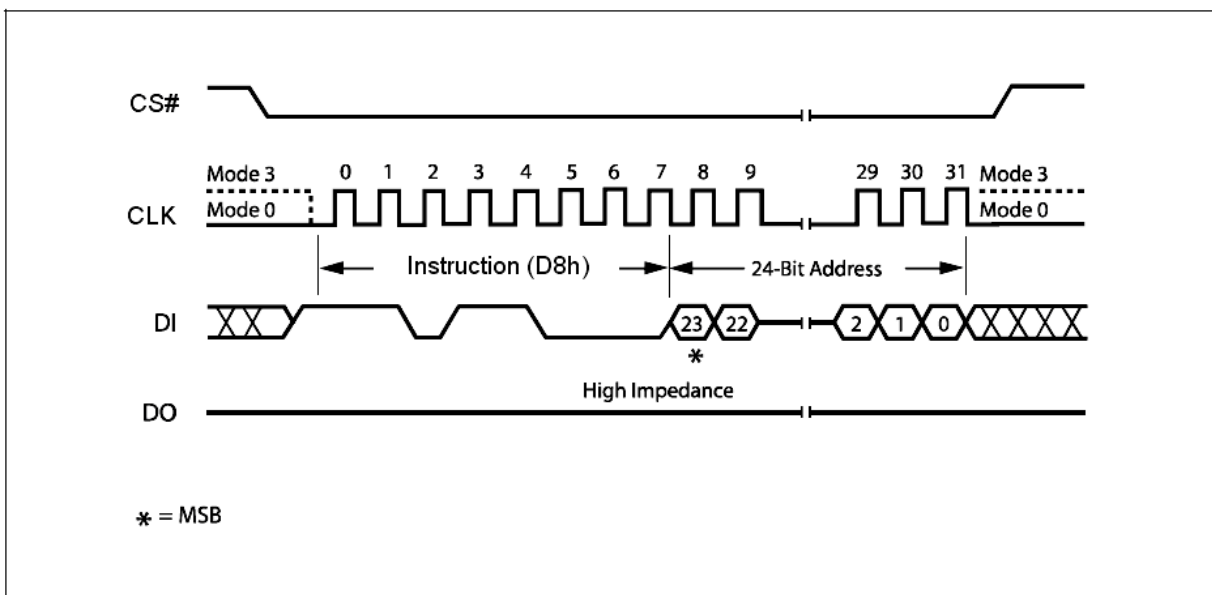

Figure 15. 64KB Block Erase Instruction Sequence Diagram
The instruction sequence is shown in Figure 15. Chip Select (CS#) must be driven High after the eighth bit of the last address byte has been latched in, otherwise the Block Erase (BE) instruction is not executed. As soon as Chip Select (CS#) is driven High, the self-timed Block Erase cycle (whose duration is t_{BE}) is initiated. While the Block Erase cycle is in progress, the Status Register may be read to check the value of the Write In Progress (WIP) bit. The Write In Progress (WIP) bit is 1 during the self-timed Block Erase cycle, and is 0 when it is completed. At some unspecified time before the cycle is completed, the Write Enable Latch (WEL) bit is reset.